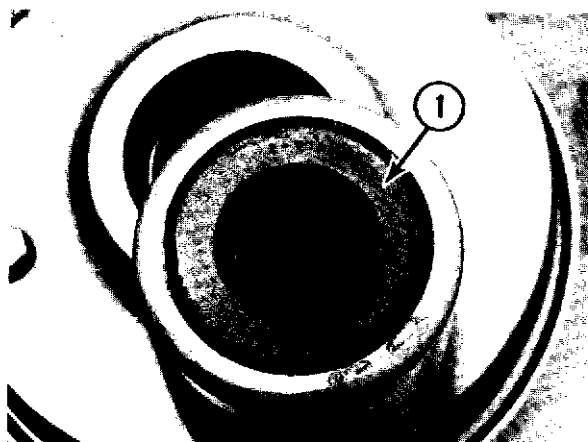

Fig. 10-11
- G. Remove the seal (1, Fig. 10-11), located at the bottom of the planetary.
- D. Carefully install the lower seal (1, Fig. 10-11).